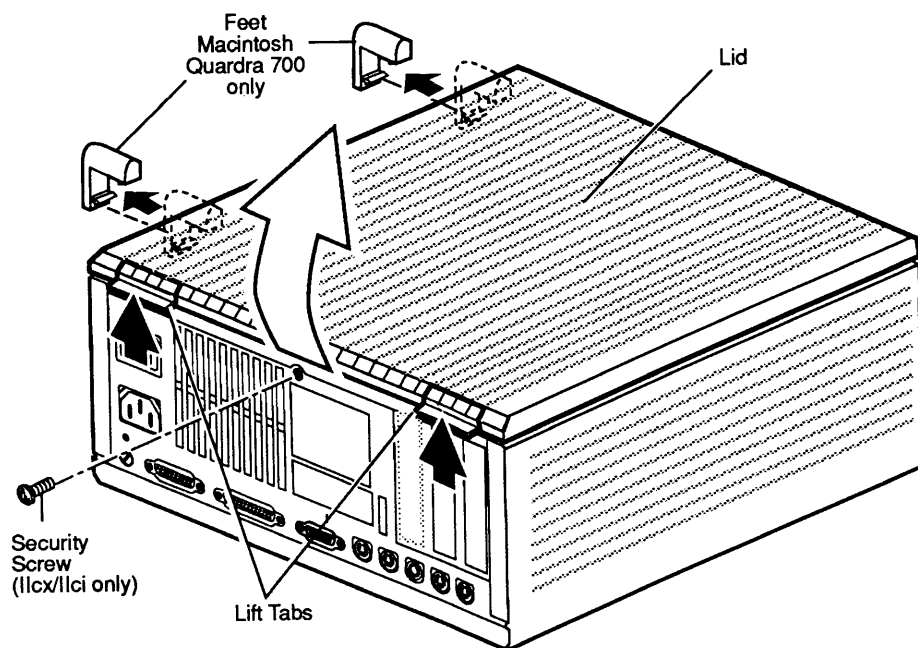

Figure 2-1 Lid
2. Remove the security screw (if present) at the top of the back panel (see **Figure 2-1**).
3. Pull up the tabs on the back of the lid (see **Figure 2-1**) and lift—back to front—until the lid is free of the front edge.